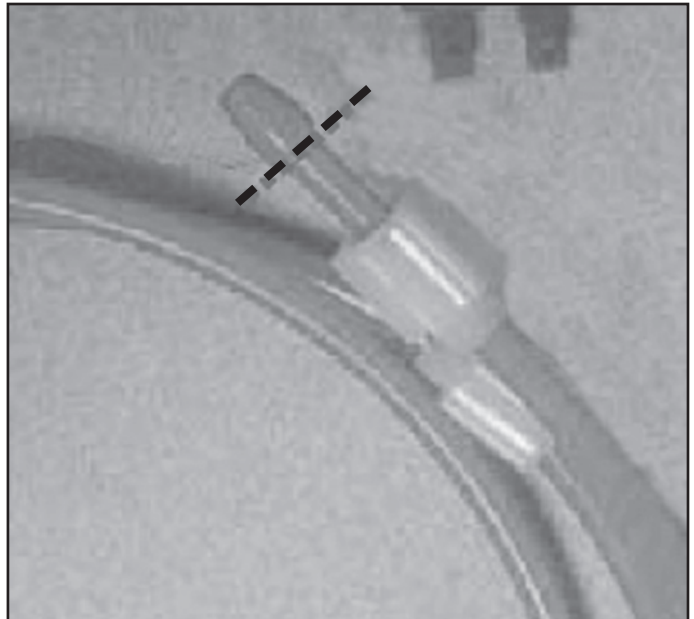

Figure 2-8c. Cut along dotted line to modify tubing.
1. Using a box cutters or knife, cut the pointed end from the water line just below the raised point. Be sure to cut straight across the water line. Do not leave open/cut end at an angle. (See Figure 2-8c)